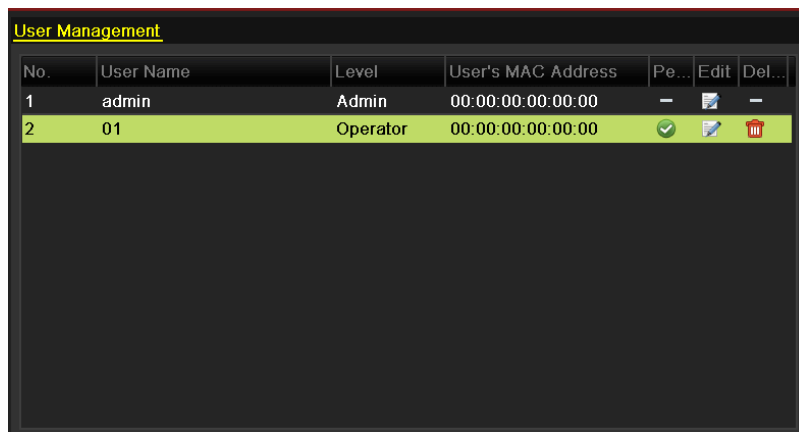

Figure 15. 8 User List
2. Select the user to be deleted from the list, as shown in Figure 15. 8.